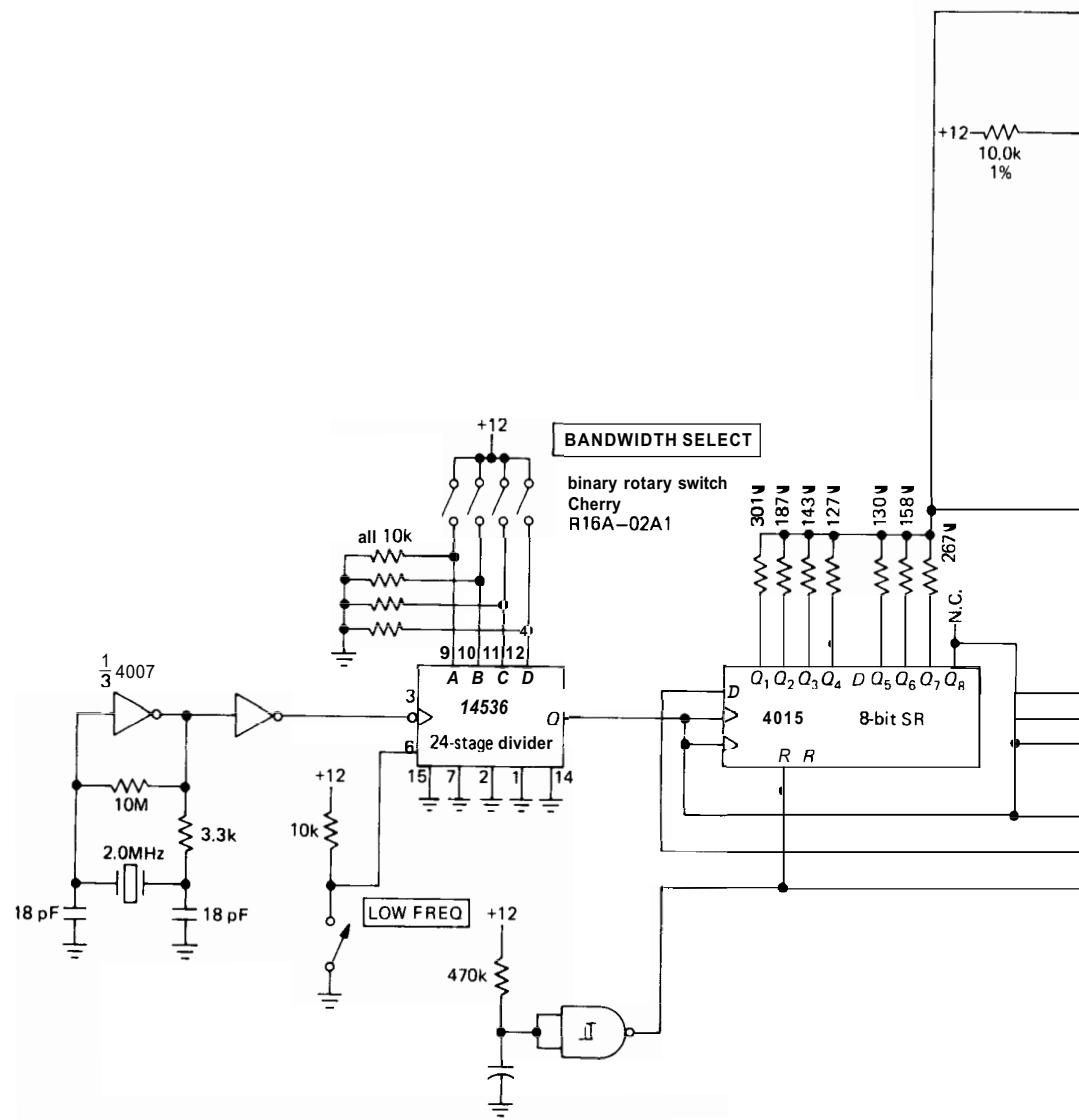

Figure 9.90. Wide-frequency-range laboratory noise source.
The circuit in Figure 9.90 generates pseudo-random analog noise, with bandwidth selectable over an enormous range, using this technique. A 2.0MHz crystal oscillator drives a 14536 24-stage programmable divider, generating clock frequencies going from 1.0MHz down to 0.12Hz by factors going from 1.0MHz down to 0.12Hz by factors of 2. A 32-bit shift register is connected with feedback from stages 31 and 18, generating a maximal-length sequence with 2 billion states (at the maximum clock frequency the register completes one cycle in a half hour). In this case we have used a  $(\sin x)/x$  weighted sum over 32 successive values of the sequence.  $U_1$  and  $U_2$  amplify the inverted and noninverted terms, respectively, driving differential amplifier  $U_3$ . The gains are chosen to generate a 1.0 volt rms output with no dc offset into a 50 ohm load impedance (2.0V rms open circuit). Note that this noise amplitude is independent of the clock rate, i.e., the total bandwidth. This digital filter has a cutoff at about  $0.05f_{clock}$ , giving a white noise output spectrum extending from dc to 50kHz (maximum clock frequency) down to dc to 0.006Hz (minimum clock frequency), in 24 steps of bandwidth. The circuit also provides an unfiltered output waveform, going between +1.0 volt and -1.0 volt.
Figure 9.90 cont.
3. Verify that the peak output of the pseudo-random-noise generator (Fig. 9.90) is  $\pm 8.68$  volts.